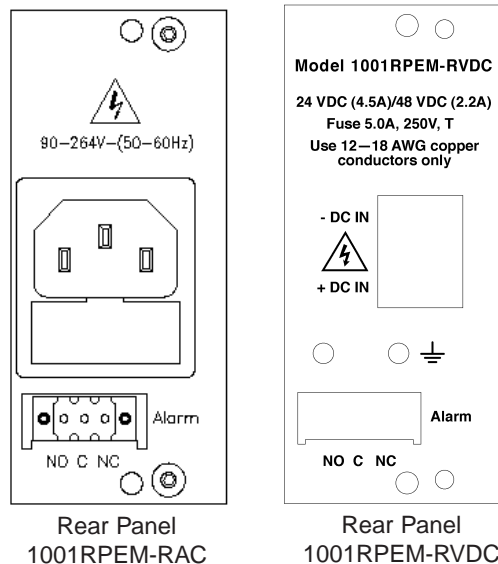

Figure 3. Models 1001RPEM-RAC & 1001RPEM-RVDC rear panel
The 1001RPEM-RAC and 1001RPEM-RVDC rear power entry cards (figure 3, below) feature a 3-position, screw-type terminal plug for the alarm connections. Both normally-open (NO) and normally-closed (NC) relay contacts are provided. Choose the appropriate set of contacts for the intended application. The NO contacts are open for normal operating conditions and close when a fault condition occurs (loss of module input power, overheating or module failure). The NC contacts are closed under normal operating conditions.